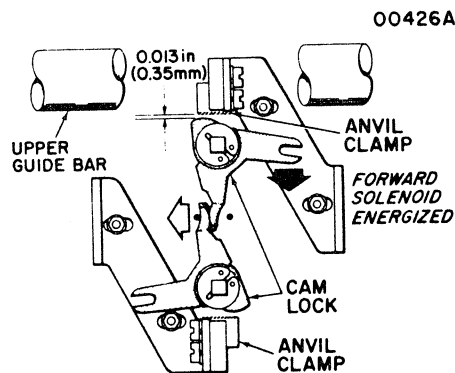

Figure 3-9. CARRIAGE SOLENOID ADJUSTMENT
1. Carriage Solenoid Adjustment (Refer to Figure 3-9)